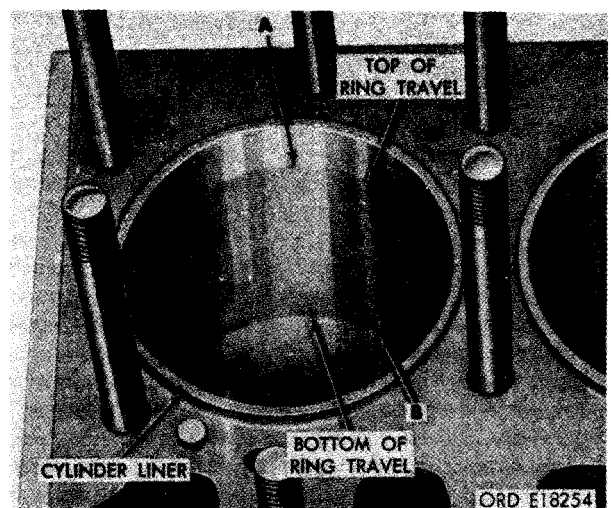

FIGURE 323. POINTS OF MEASUREMENT FOR CHECKING CYLINDER LINER BORES.
- (3) Cylinder liner bore dimensions. Check dimensions against limits specified in repair and rebuild standards. Figure 323. (A) With liner at room temperature, take two measurements of cylinder liner bore near top, just below ring travel. Measure diameter approximately parallel to crankshaft center line and then take cross measurement (90 degrees) to first measurement. Average the two measurements. (B) Take two measurements of liner diameter bore at bottom of ring travel at lower end of liner. Measure diameter of bore approximately parallel to crankshaft center line, and then take cross measurement (90 degrees) to first measurement. Average the two measurements.